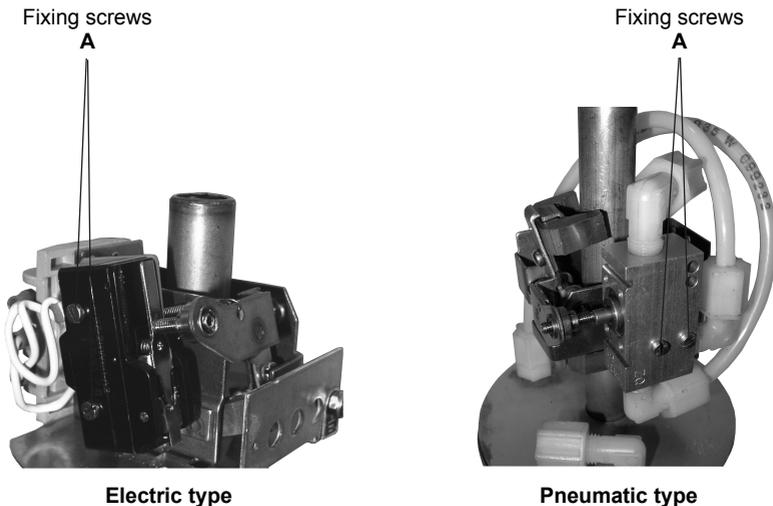

Fig. 6 - Switch mechanism
To reposition the mechanism loosen the locking screw (Fig. 6) permitting the switch to move along the non-magnetic pocket; fix then the mechanism in the new position. For the lower position mechanism it is also necessary to remove the locking screw from the plate.
- 2 - Loosen the 2 fixing screws "A" of the plate (see Fig. 6 - Electrical type); take out then the switch mechanism from the non-magnetic pocket.
- 2 - Loosen the 2 fixing screws "A" of the mechanism (Fig. 6 - Pneumatic type) and take it out from the enclosing tube.